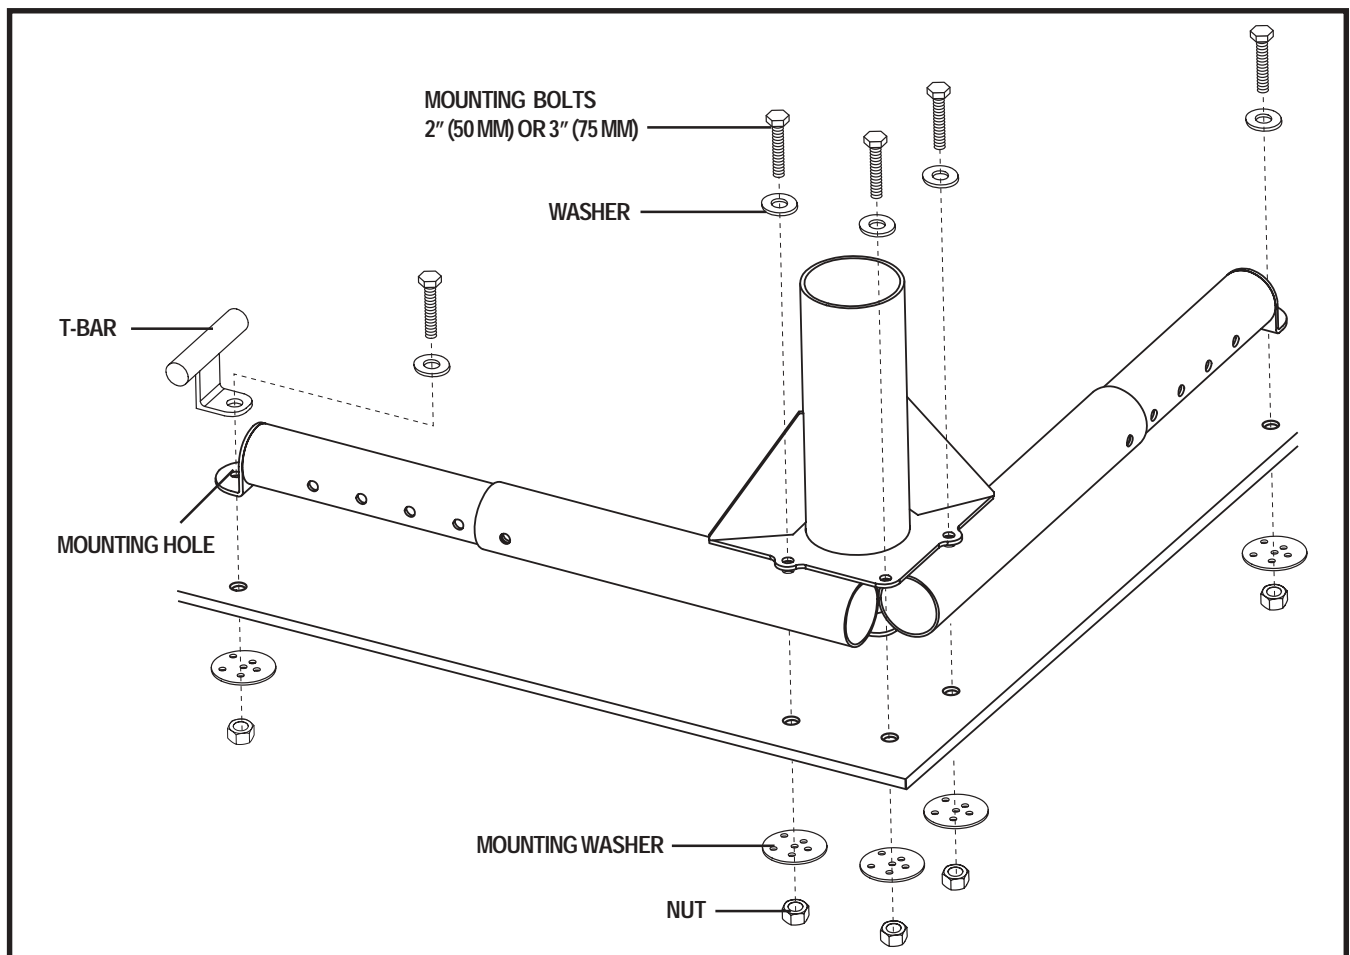

Figure 9. Securing The L-Base
1. Inspect the undercarriage of the vehicle where the lift L-base is located for obstructions that may hinder the installation of the five (5) mounting bolts that will secure the L-base to the vehicle. Obstructions may consist of electrical wiring, gas tank, bumper mounts, or exhaust pipes. You may need to adjust the base extensions to clear obstructions. If possible, install the L-base with the base extensions fully extended. **See figure 9.**
2. If all is clear under the L-base, mark the position of the five (5) mounting holes and drill them using a 3/8-in. drill bit. Drill all mounting holes from inside the vehicle. **See figure 9.**
4. Position the T-bar on the end of the base support that runs parallel with the rear of the vehicle, and install a mounting bolt and washer through it and the L-base. **See figure 9.**
6. From under the vehicle, install the mounting washers and nuts to all five (5) mounting bolts and tighten. **See figure 9.**